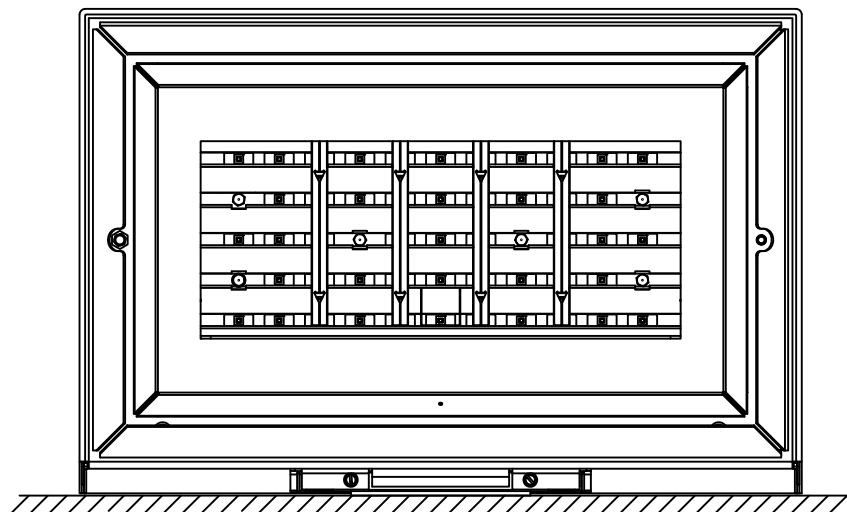

FIGURE. 6
9. MOUNTING LUMINAIRE TO MOUNTING PLATE BY SLIDING FROM TOP TO BOTTOM OVER PLATE. SEE FIGURE 6. IMPORTANT: LUMINAIRE DOOR CANNOT BE POSITIONED FACING UP IN WET LOCATION APPLICATIONS.